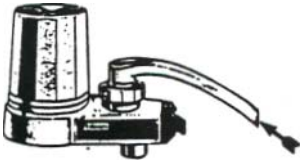

Figure 1: Faucet mount filter.
- faucet mount (Figures 1 and 3)